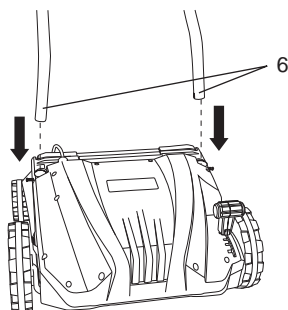
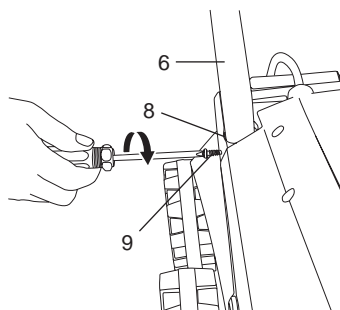

Fig. 2
Fig. 3
2. Align the lower handle bars (6) with the supports (8) (Fig. 2). Make sure the holes in the lower handle bars face outwards and secure the bars with one screw (9) to each support (8) (Fig. 3).